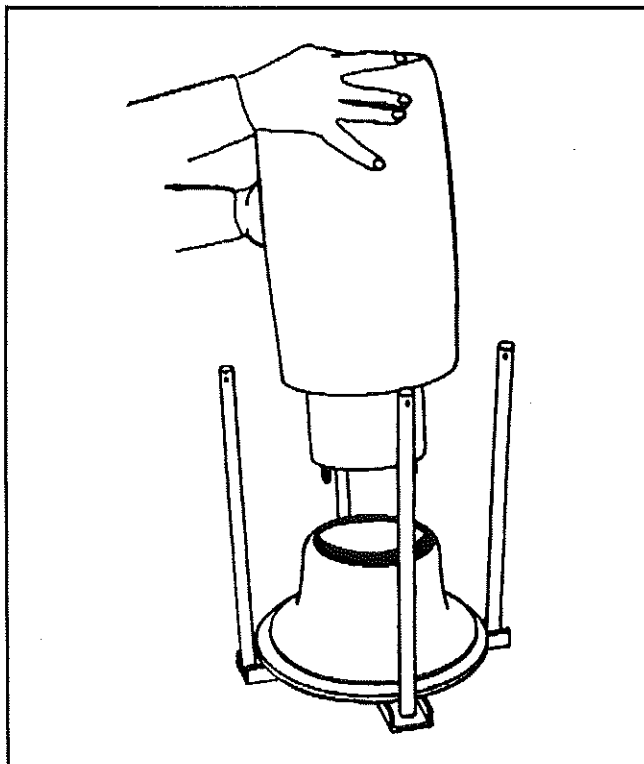

FIG. 13
4. Release the pressure from the air spring, then place partially assembled air spring on the piston (see fig. 13).